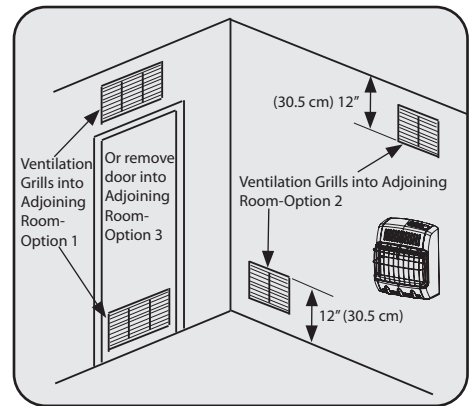

Figure 2
- a. Rework worksheet, and the space of an adjoining room. If the extra space provides an unconfined space, remove door to adjoining room or add ventilation grills between the rooms. See Ventilation From Inside Building (Fig. 2)
This fresh air would come from an adjoining unconfined space. When ventilation to an adjoining unconfined space, you must provide two permanent openings: one within 12" of the ceiling and one within 12" of the floor on the wall connecting the two spaces (see options 1 & 2 of figure 2). You can also remove door into adjoining room (see option 3, Fig 2). Follow the National Fuel Gas Code NFPA 54/ ANSI Z223.1, Section 5.3, Air for Combustion and Ventilation for required size of ventilation grills or ducts.